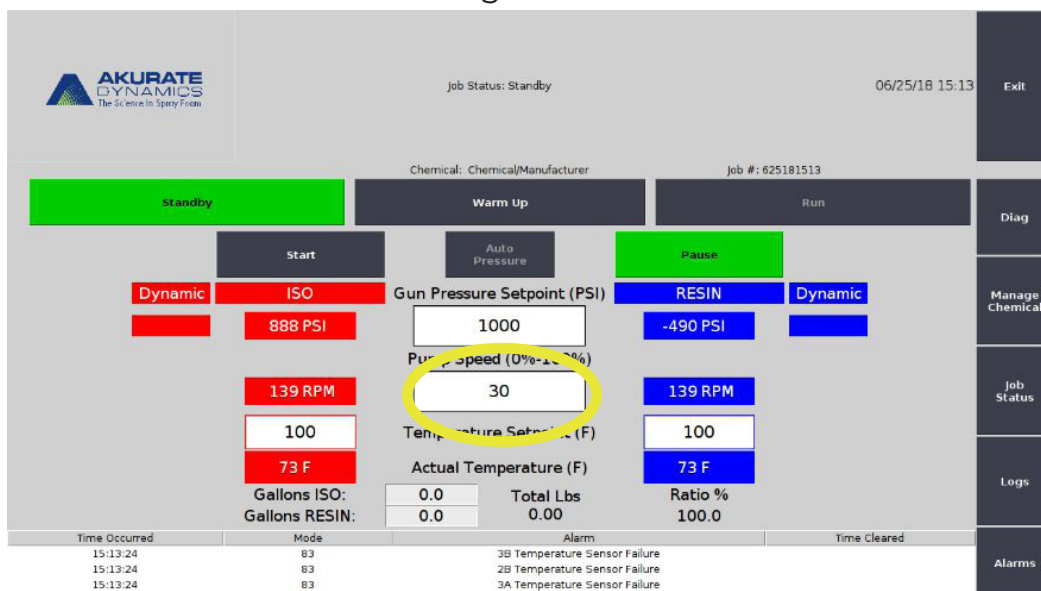

Figure 12
2. Set the motor speed to 20% (Figure 12)